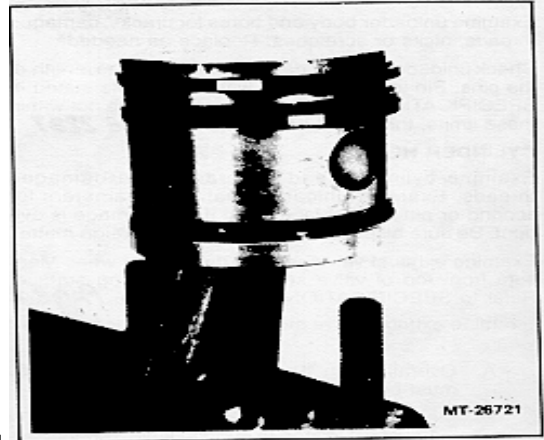

Figure 9 - Piston Assembly
10. Remove piston rings from pistons (Figure 9) using piston ring expander.